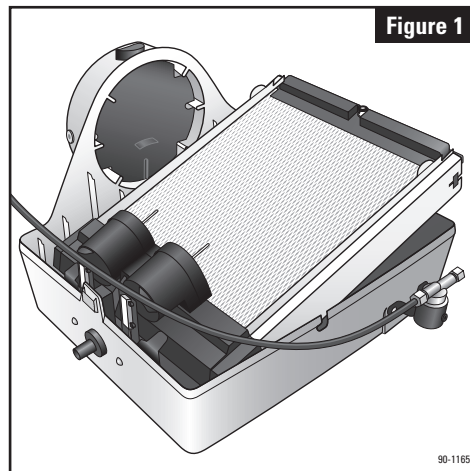

Figure 1
1. Remove front cover by pressing center tabs on top and bottom of the cover (1) and base (2). Pull feed tube (3) out of the water distribution tray (4). Tip the evaporative assembly forward and lift it out of the humidifier. (See Figure 1)
2. The humidifier comes assembled for left side discharge. If converting to right side discharge, the base can be rotated so round collar is facing to the right. Swap the location of the hole plug (10) and water level sensor assembly (9) if using a right side discharge. To remove the cap, push and twist from inside the housing while lifting the cap up slightly on the outside. To remove the drain spud, twist and push from the outside of the base.